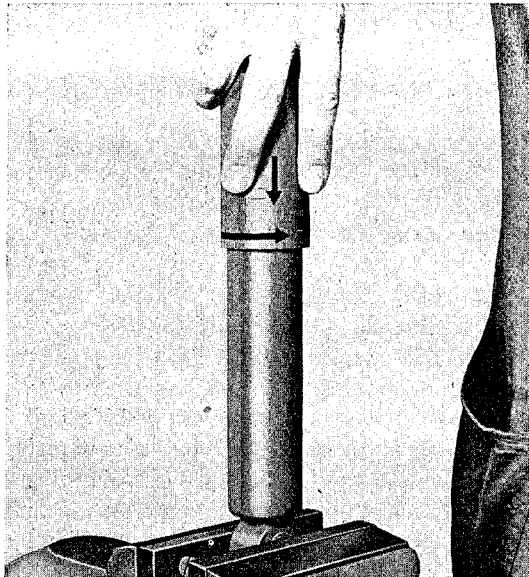

Fig. 60
1. Remove shock absorber and fix in a vise in vertical position at lower eye – with the plunger rod pointing upward – (see fig. 60).